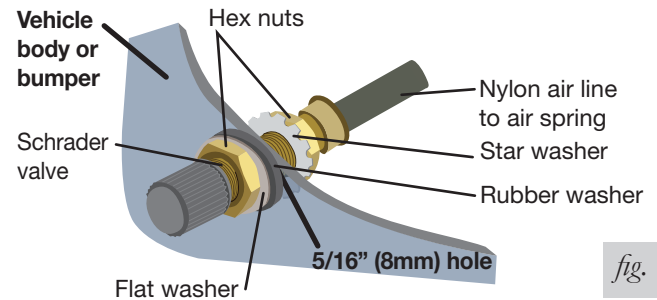

fig. 10
3. Install the Schrader valve in the chosen location (Fig. 10).